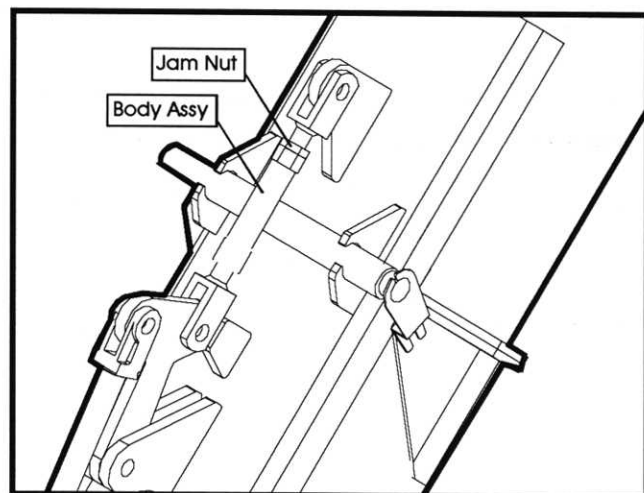

FIGURE 12
1. **Refer to Figure 12.** Loosen Jam Nut from body assembly.